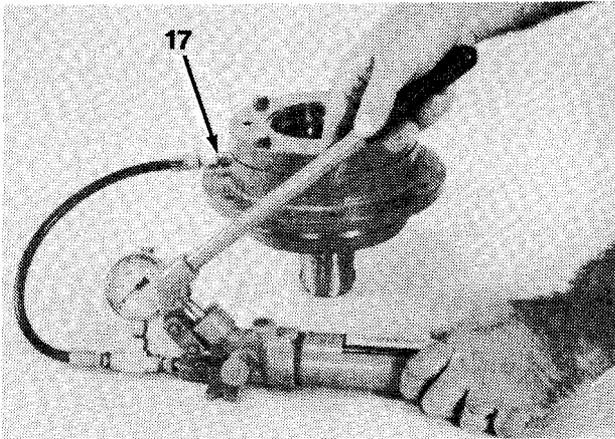

Figure 16-17
1. Install a -4 J.I.C. fitting (17, Figure 16-17) in brake release port.
6. Release pressure and remove hand pump and -4 J.I.C. fitting (17, Figure 16-17).